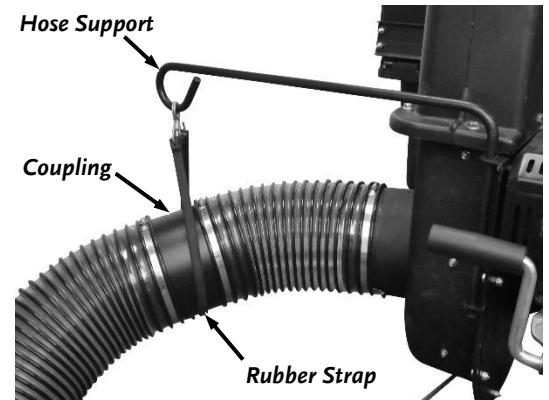

Figure 21
9. Support the Hose with the Rubber Strap by hooking one end into the Support Loop, going under the Hose and securing the other end onto the Support Loop (**Figure 21**).